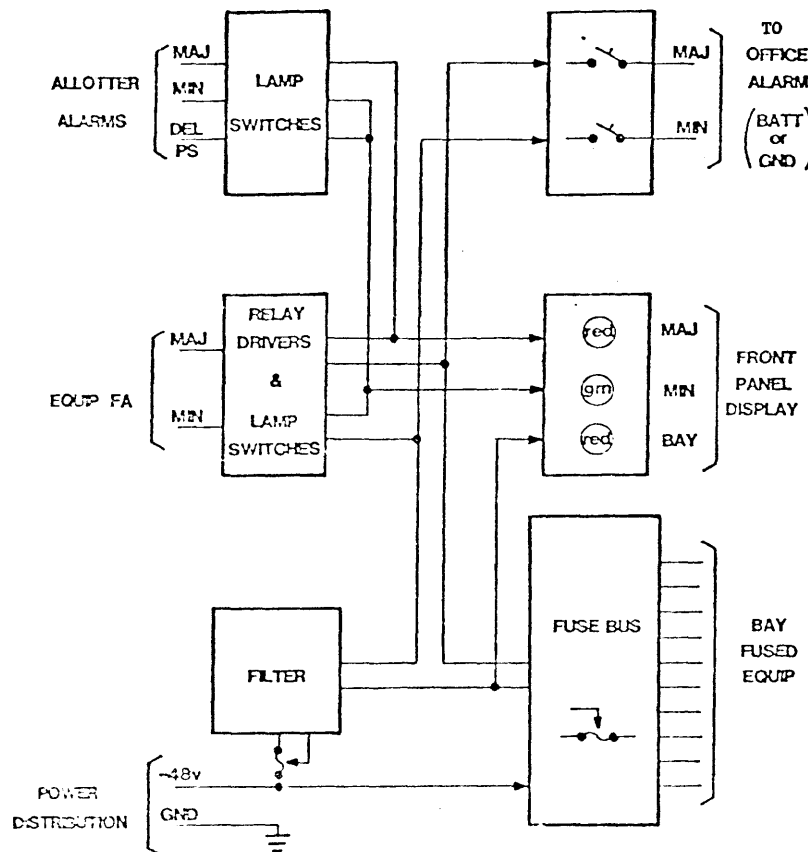

Figure 2. Filtered Fuse Panel Functional Diagram
1.02 Figure 2 is a functional diagram of the Panel showing the logic of the alarm inputs to alarm outputs and displays. As shown, the Allotter Alarm inputs will only light the MAJ and MIN Front Panel lamps and do not affect the Office Alarm outputs. The Equipment FA inputs will affect both the Office Alarm outputs and front panel lamps. The BAY lamp is only turned on by a fuse failure, either the Filter or one or more of the bay fused equipments.
1.01 The ITEC Filtered Fuse & Alarm Panel is comprised of one circuit card mounted to a Front Panel. The Front Panel contains the Alarm lamps and GMT Fuses. The circuit card contains all other components and wiring connections, power distribution BATT and GND are connected via screw terminal posts, all other connections are wire wrap. Refer to Figure 2 for a functional diagram, and Schematic C600149 during the circuit description.